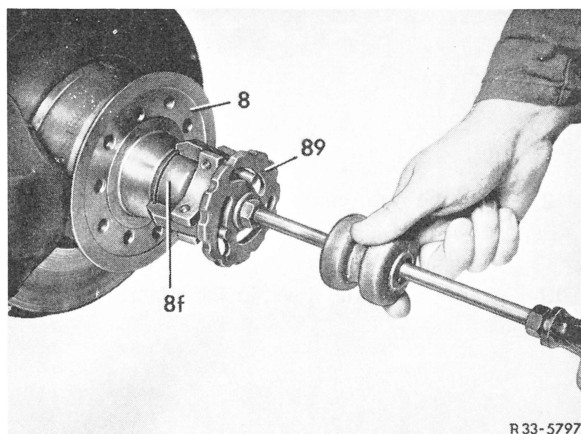

Fig. 1
- 2 Use special tool to remove hub grease cap (Fig. 1).
12 Press the hub grease cap on, using the special tool. (Fig. 1).